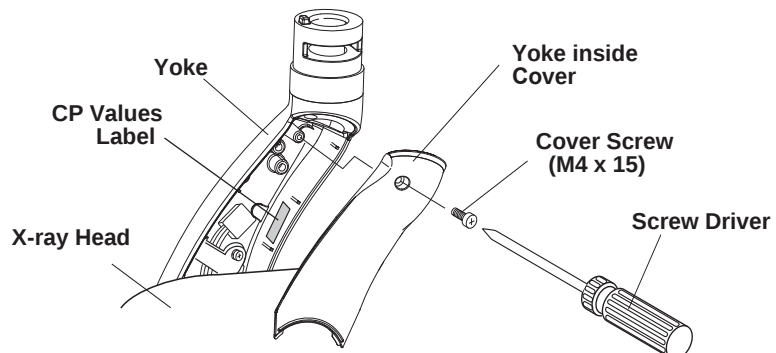

Fig.3-16 Removing Yoke Inside Cover
2. Open the yoke inside cover of x-ray head by removing (M4 x 15mm) cover screw. (Fig.3-16)
7. Reattach the yoke inside cover with the screw (M4 x 15mm). Before closing the cover, note the CP values on the CP values label inside of the yoke. (**Fig.3-16**)